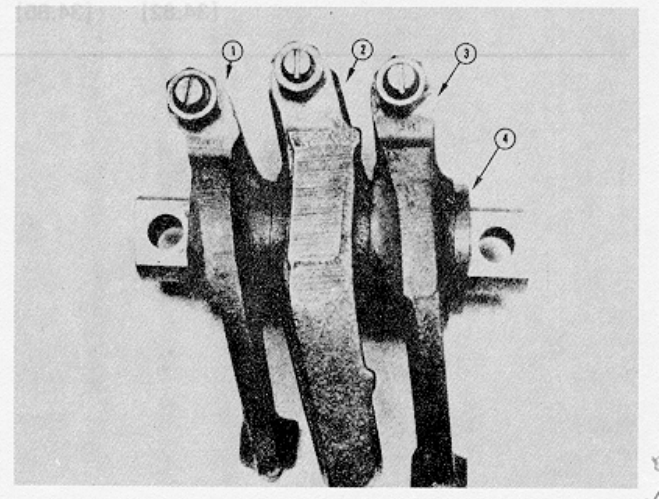

Figure 16E-9. Rocker Lever Assembly
3. Install the rocker levers on the shaft in the following order: intake (1), Figure 16E-9, injector (2), exhaust (3).